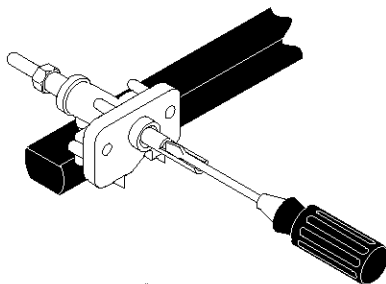

Figure 12
4. Adjust the "LOW" Setting of Surface Burner Valves (see Figure 12)